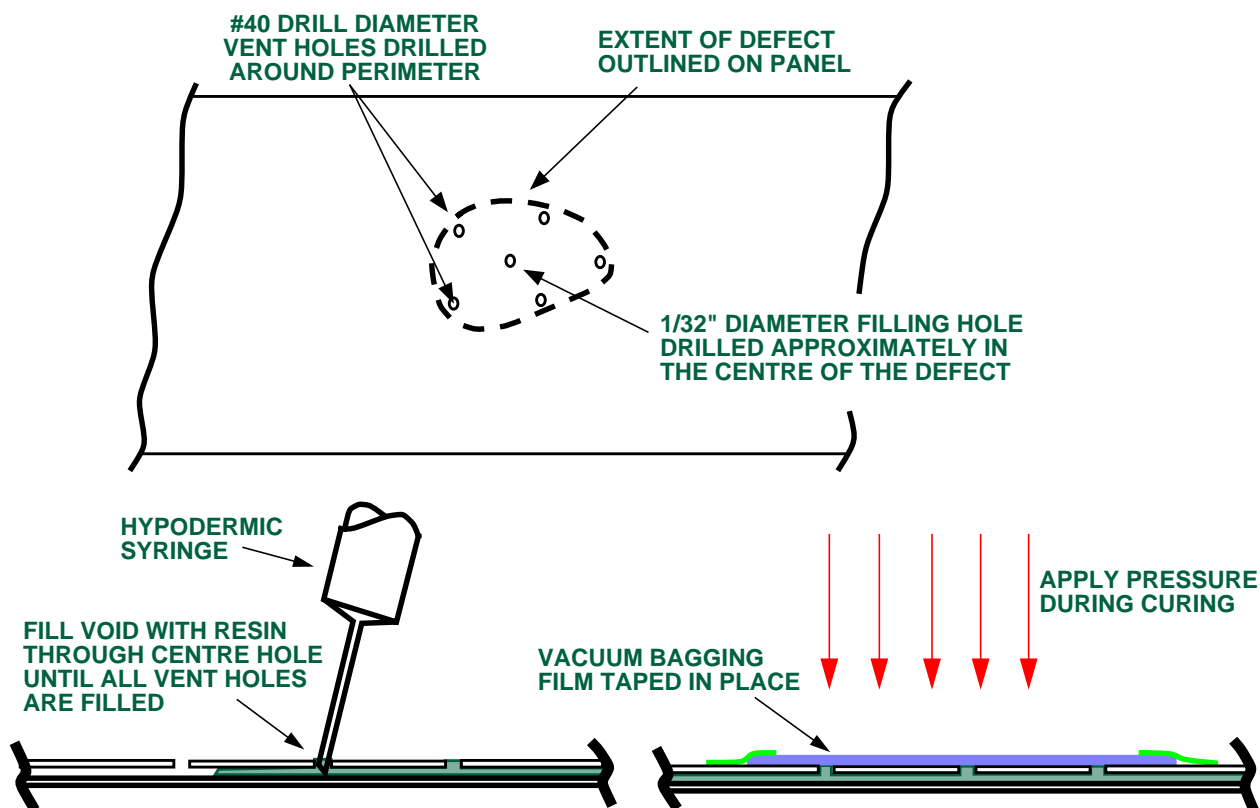

FIGURE 2 - EPOXY RESIN-GELCOAT REPAIR OF DELAMINATIONS AND INTERNAL VOIDS
5.2.4.1 Repair delaminations and internal voids as follows (see Figure 2):